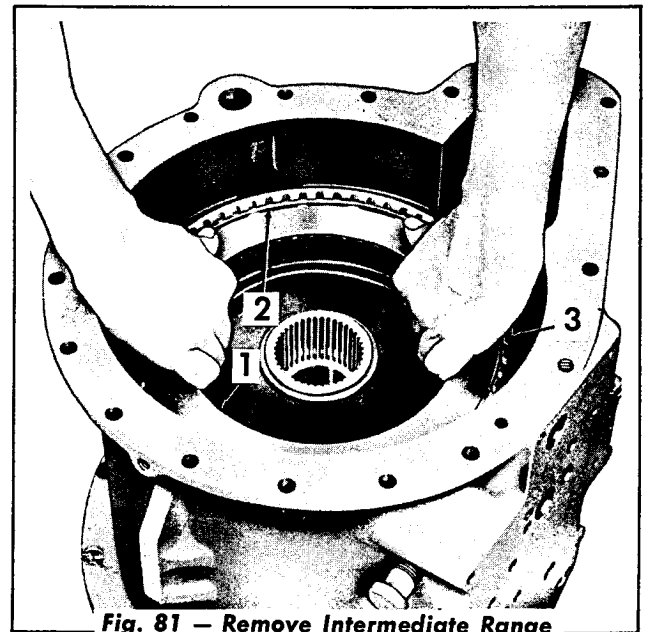

Fig. 81 — Remove Intermediate Range Clutch Drum
19. Install the external splined clutch plate (Fig. 81) and snap the ring into the intermediate range clutch drum. Grasp the plate and remove the drum assembly.